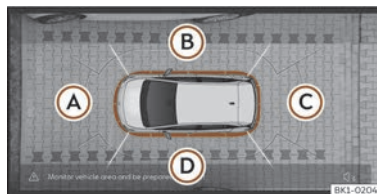

Fig. 150 Area View system display: top view.
There are four different views to choose from >>> Fig. 150:
The top view is generated by combining the images from all the cameras >>> Fig. 150. The top view can be selected by pressing the vehicle inside the zone.
Press on the different areas >>> Fig. 150 (A) to (D) of the top view or reduced top view to select and set the corresponding view, which will be highlighted in orange.